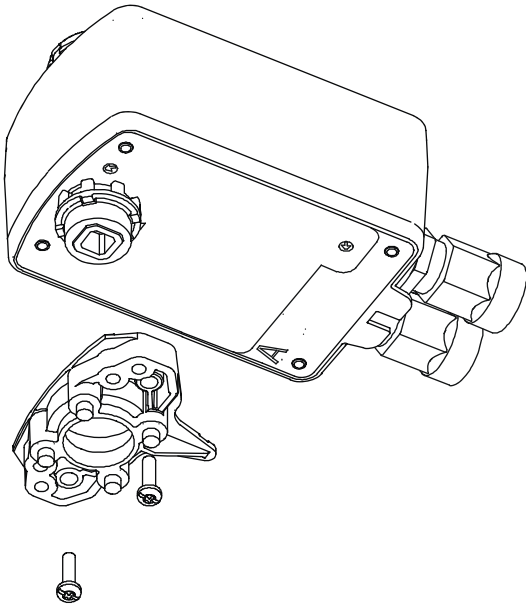

Figure 13: Installing the Linkage
3. Remove the linkage from Side B (Figure 13).
5. Install linkage base on Side A using the two #8-32 x 0.625 in. long screws (Figure 13). The recommended torque is 29 to 33 lb-in. (3.3 to 3.7 N·m).